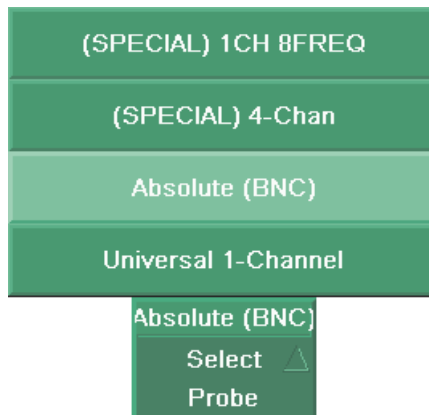

Figure 3-1 Available choices in the Select Probe parameter
3. Select **Probe & Part > Settings > Select Probe**, select the appropriate choice in the list, and then press the Accept key to confirm (see Figure 3-1 on page 36).